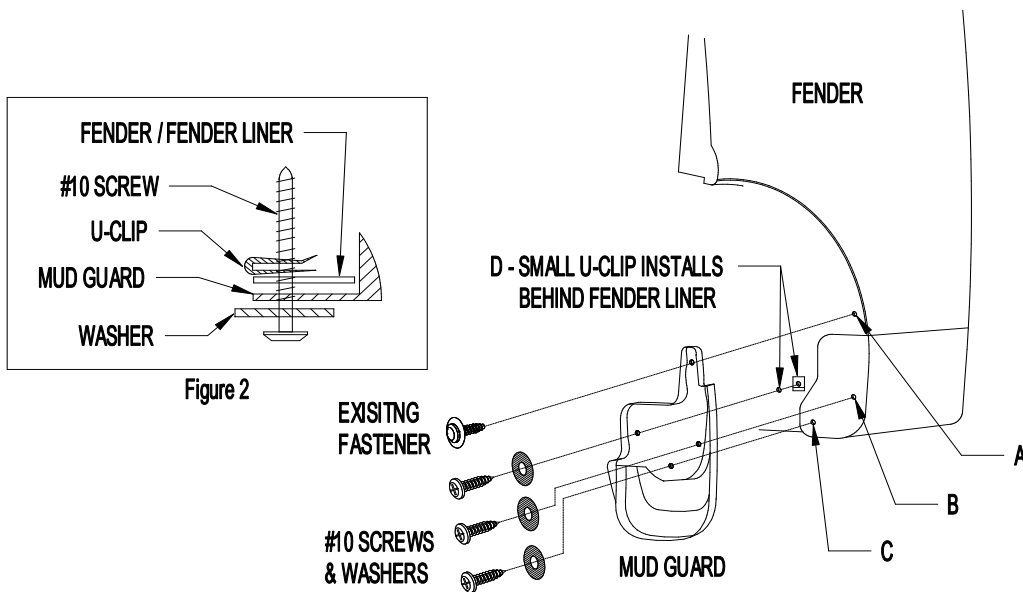

Figure 1
1. Remove the existing fastener from location A (Figure 1).
5. Install a Large U-clip over the fender liner and align with drilled hole at location D (Figures 1 and 2).